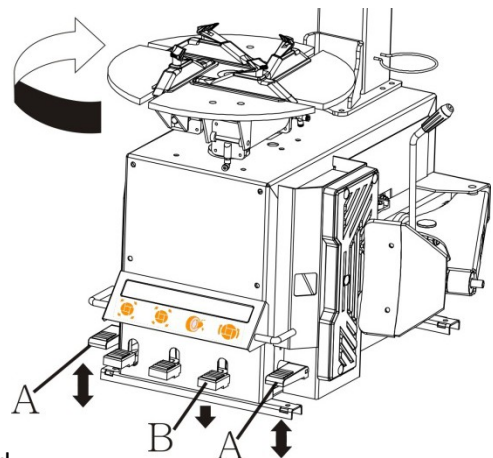

Fig. 12
- Test if it is properly connected by pressing the pedal for operating the turntable (A, fig.12), the table should now rotate clockwise. This is a very important test.
- Now test the heel breaker by operating the control pedal (B, fig.12). Do this 3-5 times and have someone else look at the back of the machine to see if there is a drop of oil in the reservoir (F, fig.11) is injected. If this is not the case, you can regulate it with the adjusting screw (E,fig.11).